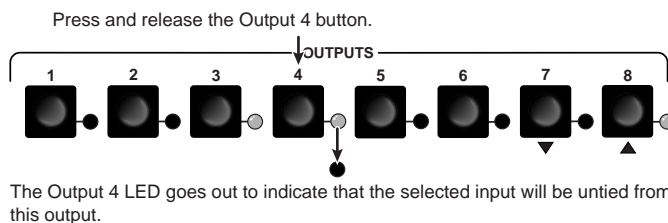

Figure 3-16 — Deselect the output
3. Press and release the Output 4 button (figure 3-16).